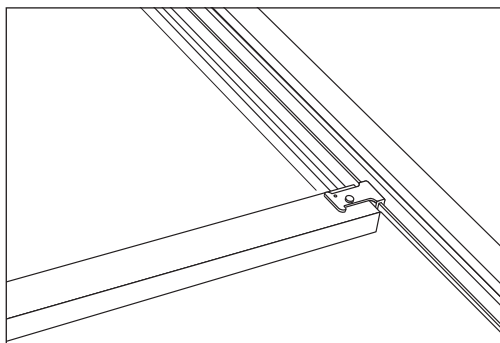

Fig 5 Position cleat at top edge of batten
- 12 When using double-lap slates, cleat should always be positioned near top edge of batten (Fig 5).